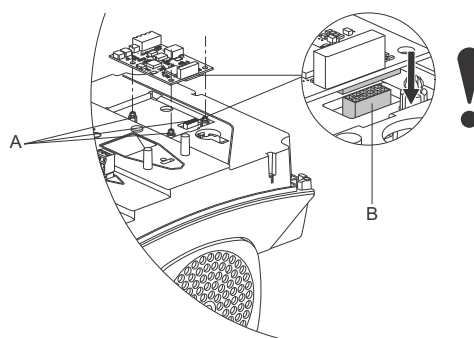

Fig. 48 Align CIM module with plastic holders (pos. A) and connecting plug (pos. B)
5. Fit the CIM module by aligning it with the three plastic holders (fig. 48, pos. A) and the connecting plug (fig. 48, pos. B). Press home the module using your fingers.